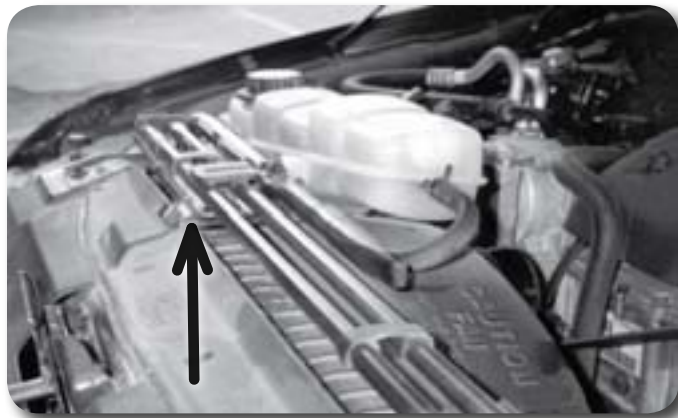

Figure 5
18. Remove the tire iron, jack accessories, and their mounting clamps from the top of the core support **Figure 5**.